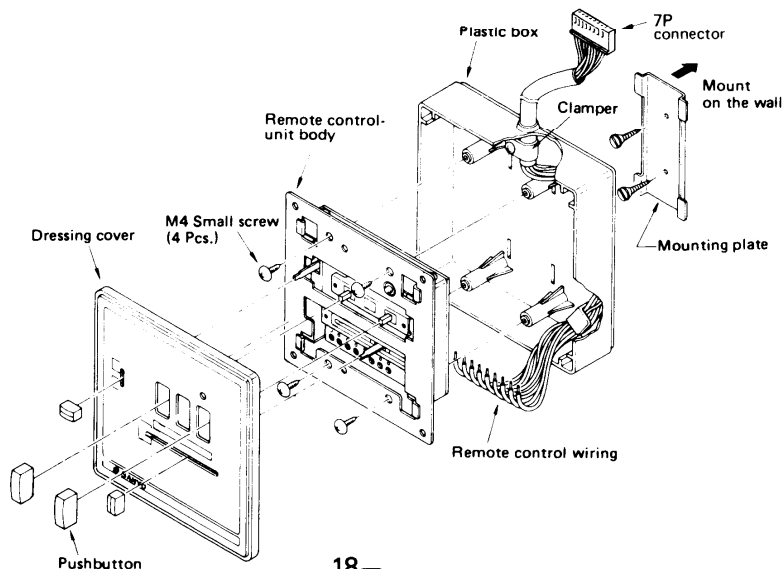
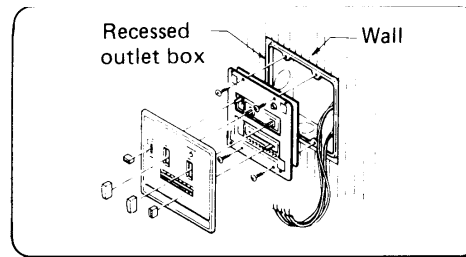

Fig. 17
Fig. 18
### 3-4. Install Remote Control Unit: Fig.17
**NOTE** : In case of use recessed outlet box, install remote control unit body, dressing cover and pushbutton directly to outlet box as same as Fig. 17. Do not use plastic box and mounting plate. Fig. 18